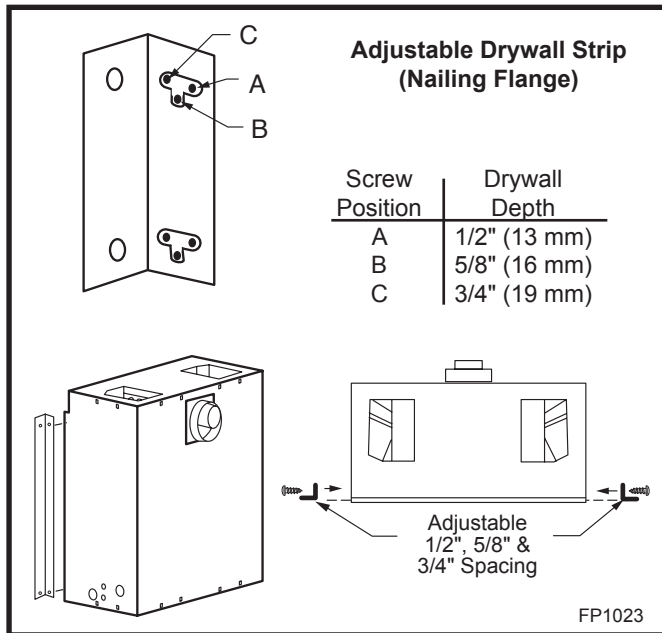

Fig. 4 Adjustable drywall strip (nailing flange).
4. Attach fireplace to frame using adjustable frame drywall strips (located behind access door for shipping). Preset depth to suit facing material (adjustable to 1/2", 5/8" or 3/4" depths). (Fig. 4)
5. Screw through slotted holes in drywall strip and then screw into pre-drilled holes on fireplace side. Measure from face of fireplace to face of drywall strip to determine final depth. (Fig. 4)